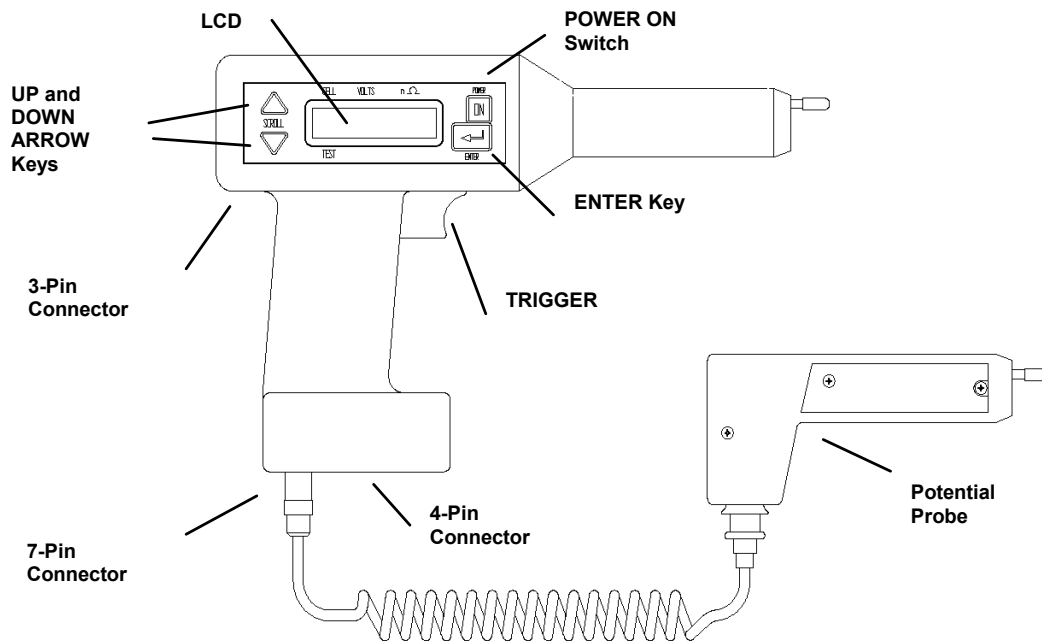

Figure 5-1: Receiver controls, connectors and indicators
2. Using the wand adapter cable, insert the wand into the 7-pin connector on the **receiver**. (See Figure 5-1 on page 24 for the location of the 7-pin connector.)